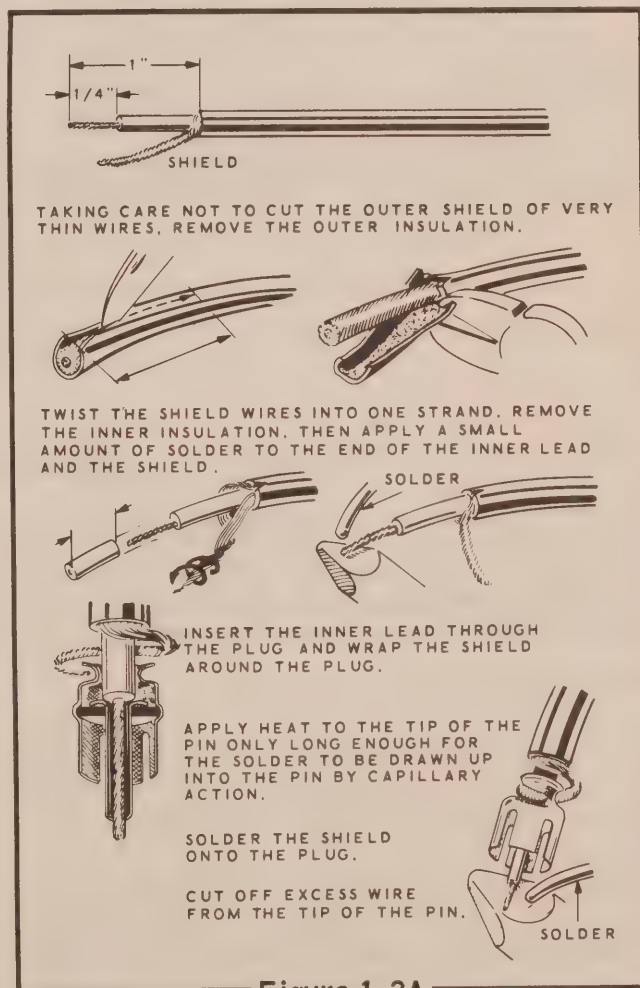

Figure 1-2A
- (✓) Cut the speaker wires to the length required for your installation. Refer to Figure 1-2A to attach a phono plug to the speaker wires.
- (✓) Connect the 50 Ω dummy load to the ANT phono socket on the rear of the chassis. If necessary, refer to Figure 1-2A and attach a phono plug to the 50 Ω dummy load antenna.